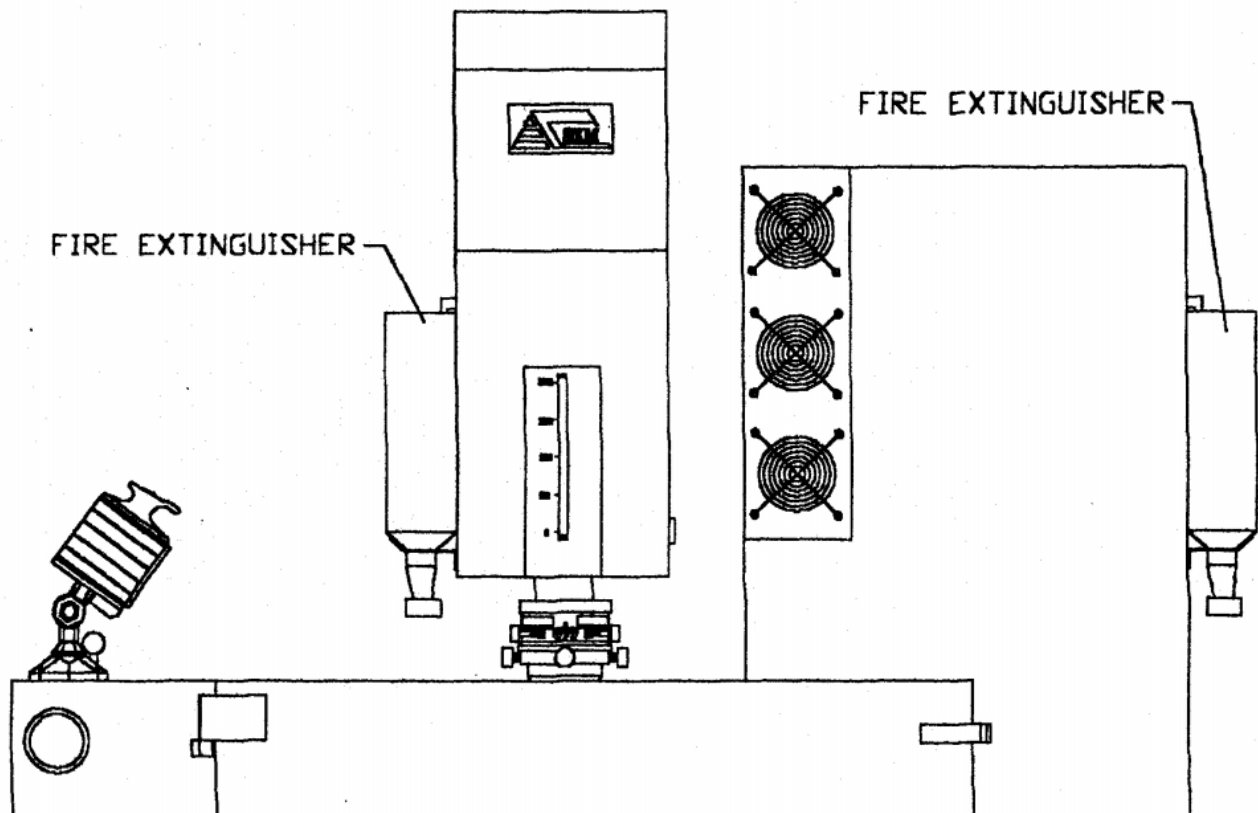

FIG. 1-5
- E. THE POSITION OF FIRE EXTINGUISHER, WE SUGGEST OUR EDM USER SHOULD POSITION 2 FIRE EXTINGUISHERS AS FIG. 1-5 POSITION.